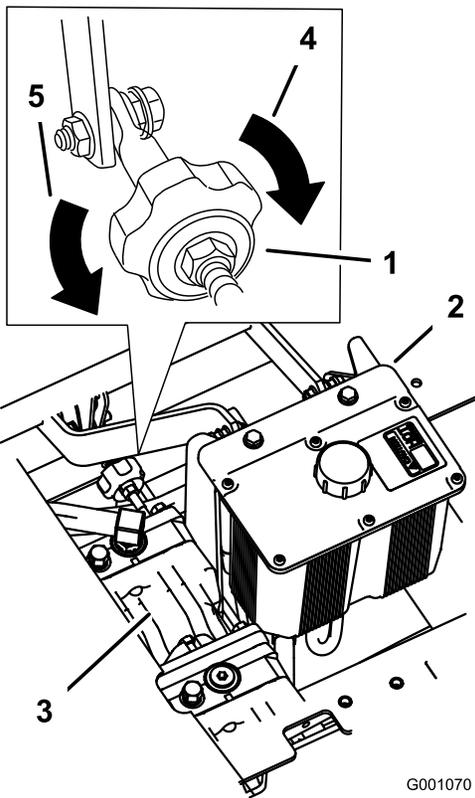

Figure 81
2. Adjust the pump rod length by rotating the knob, in the appropriate direction, until the wheel is still or slightly creeping in reverse (Figure 81).